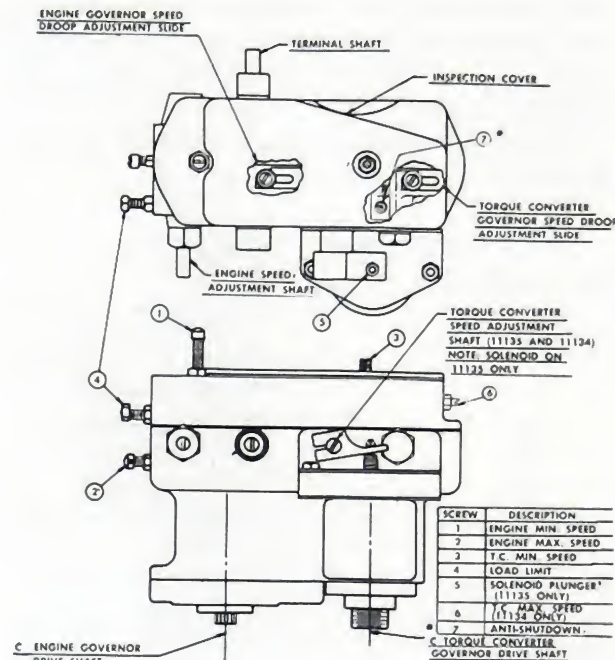

Fig. 12-40. 10941, 11134 and 11135 governor adjusting screws
SETTING SINGLE CASE DUAL GOVERNORS NOS. 10941, 11134 AND 11135; Refer to Fig. 12-40.
- Rotate the terminal shaft in clockwise direction as shown in the lower view of Fig. 12-40 until the servo piston bottoms.